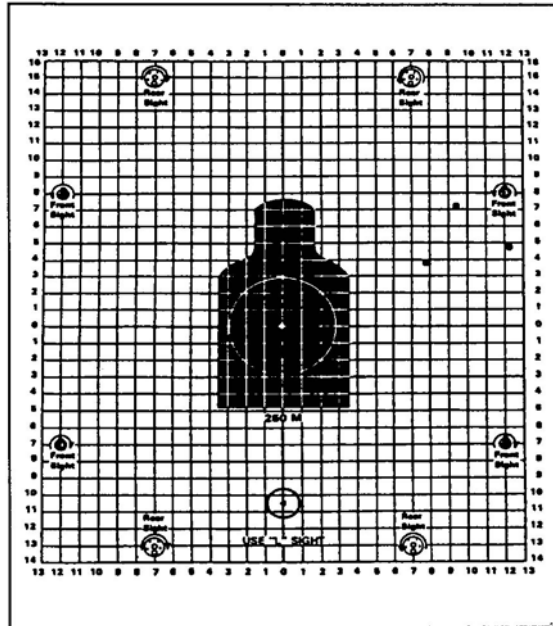

Figure 4. Sample 25-meter zeroing target for M16A1.
- b. Repeat Steps 5 and 6 until the center of the shot group is 7 centimeters below the target aiming point as shown in Figures 4 and 5.
From the center of the shot group in Figure 4, move the azimuth adjustment actuator 11 clicks to the left. Move the elevation adjustment actuator down 17 clicks.